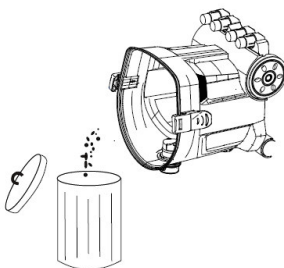

Fig. 19: Empty the filter
Step 2: Empty the contents by tilting the lower part of the housing (Fig. 19). If a dust bag is used, remove it and insert a new one.